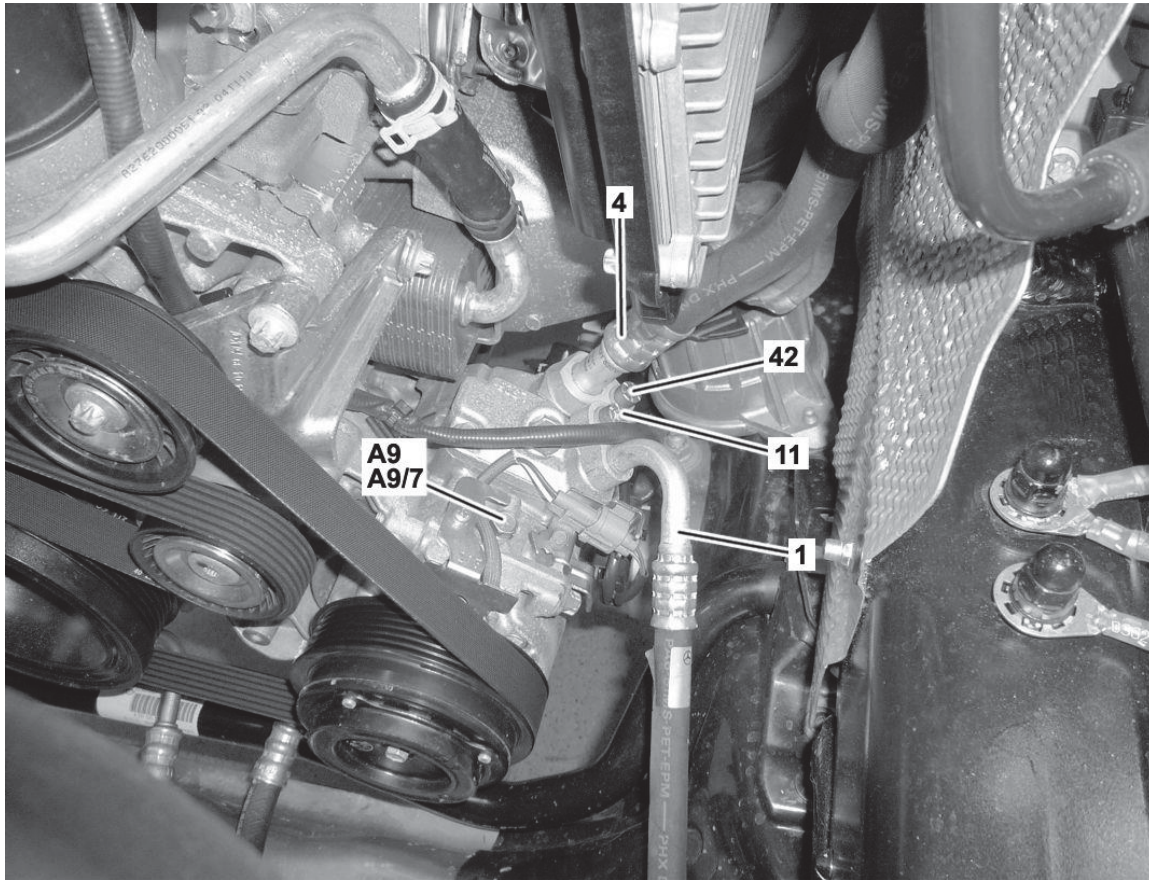

Figure 2
7. Remove compressor refrigerant line bolt (42, Figure 2).
- Torque bolt (42) to 20 Nm when installing.
8. Disconnect compressor refrigerant line (4, Figure 2) from compressor (A9, A9/7).
9. Remove compressor refrigerant line (4, Figure 2).
10. Install **new** compressor refrigerant line (4, Figure 2) in reverse order.